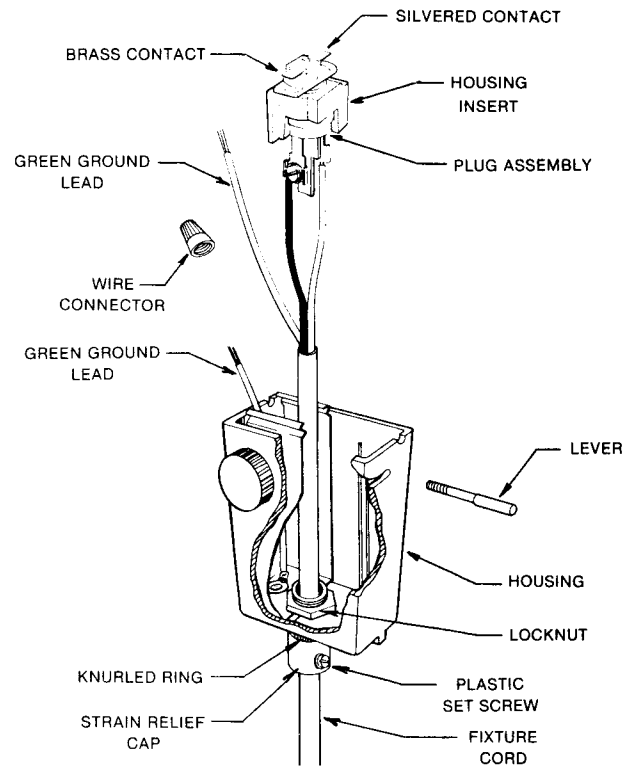

FIG. 1
1. Remove 2" of outer insulation from FIXTURE CORD (when required) and strip conductor ends 3/4". See Fig. 1.
2. Insert FIXTURE CORD through attachment housing. Fasten BLACK WIRE to LONGER (BRASS) CONTACT and WHITE WIRE to SHORTER (SILVERED) contact. For 3 conductor cord, splice GROUND LEADS with wire connector. (If the GROUND LEAD from the attachment HOUSING is not used, leave wire connector on.) See Fig. 1.